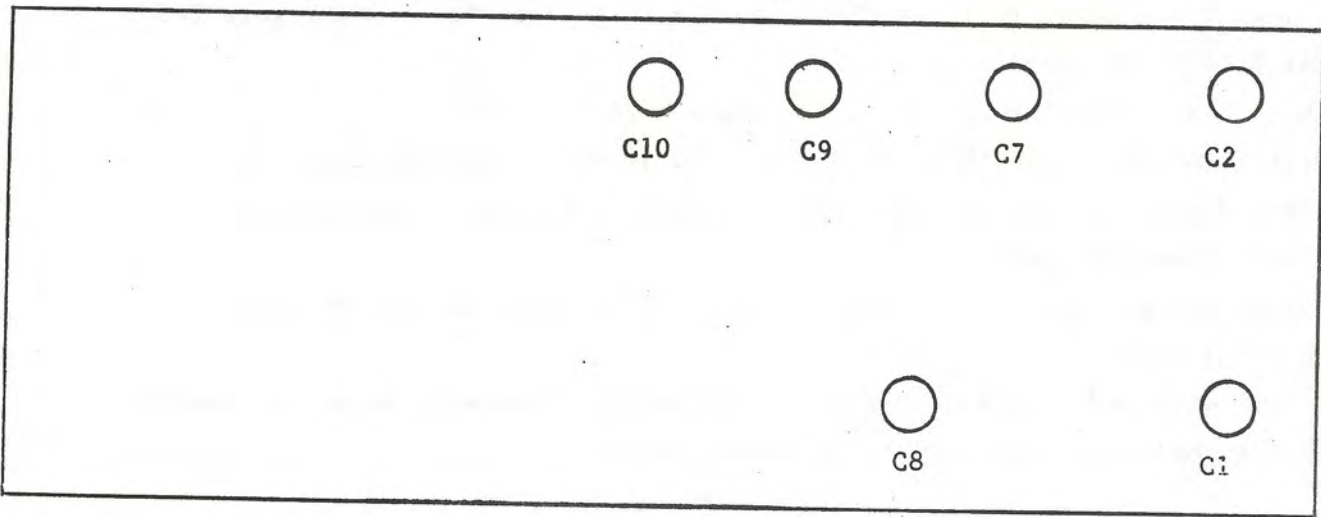

FIGURE 5-2A TRIPLER AND BUFFER SECTION
- 5.2.8 Tune C1 of Tripler and Buffer Stage for Maximum Reading in Position #10 of Test Meter. See Figure 5-2A for locations.